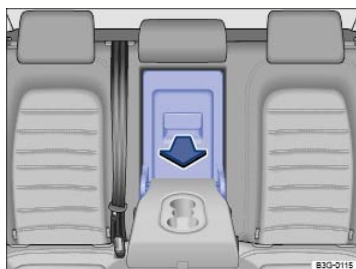

Fig. 155 In the rear seat backrest: Opening the luggage compartment pass-through.
- Pull the release lever in the direction of the arrow ⇒ *Fig. 155* and fold the pass-through cover all the way forward.